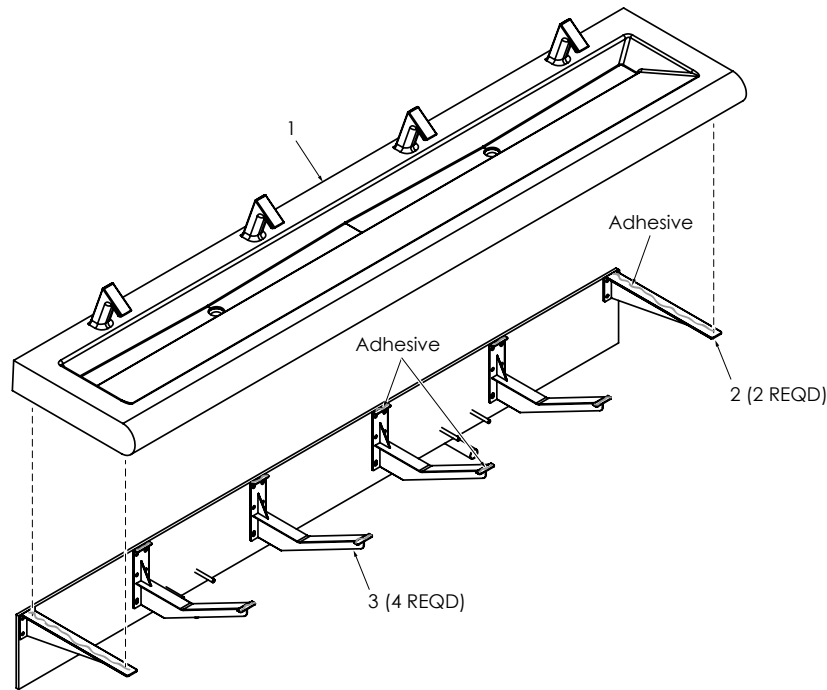

Figure 16
16. Install Deck (1, Figure 16) onto Side and Middle Brackets (2, 3).